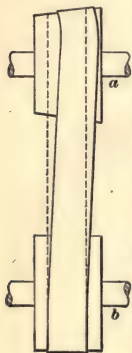

FIG. 13.
11. Crowning Pulley Faces.—In Fig. 13, suppose the shafts *a* and *b* to be parallel. Let the pulley on the shaft *a* be cone-shaped, as shown. The right-hand side of the belt will be pulled ahead more rapidly than the left-hand side, because of the greater diameter and, consequently, greater speed of the right-hand end of the pulley. It has been observed that in this case the belt will leave its normal position, which is indicated by the dotted lines, and climb toward the part of the pulley that has the largest diameter, as shown in the illustration. This tendency of the belt to climb toward the high side is taken advantage of to make the belt stay on a pulley. Suppose the pulley on the shaft *a* is replaced with one formed of two equal cones, with the large diameter in the center. Then, each side of the belt will tend